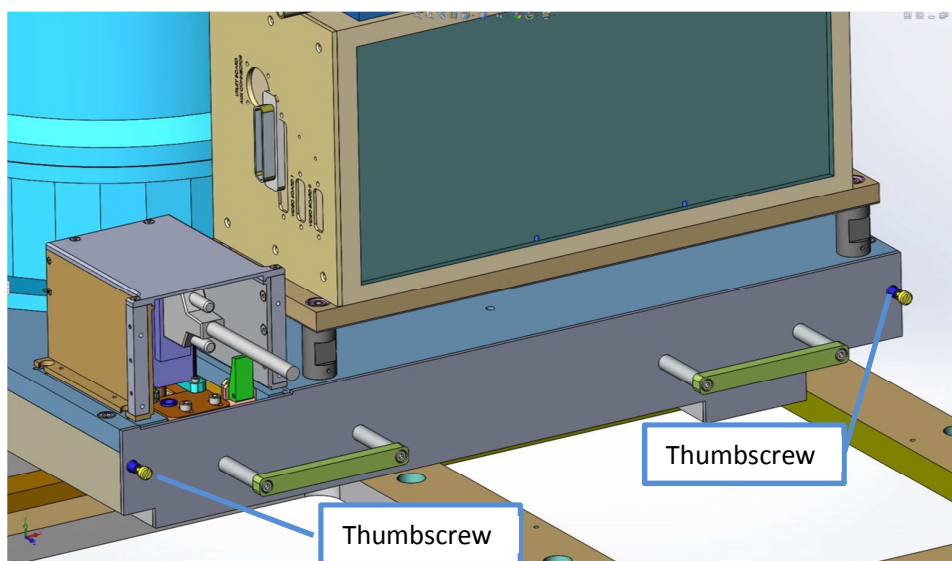

Figure 4. Shutter cover removed
4. Slide back the shutter cover **CAREFULLY** to avoid straining the shutter connectors. If the cover is sticking to the cables, loosen the grommet clamp described in step 2. You should be able to see the shutter, as shown in Figure 4
5. Remove the filter cover by undoing the two thumbscrews shown in Figure 4
3. Remove the filter cover by undoing the two thumbscrews shown in Figure 4
7. Install the filter cover by tightening the two thumbscrews shown in Figure 4